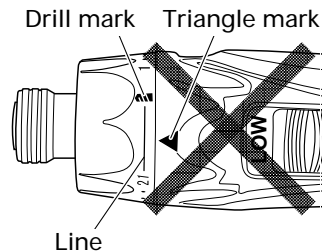

Fig. 9
- **Do not use with the clutch dial set at the line between the number "21" and the drill mark "◁▷▷▷". Doing so may cause damage (See Fig. 9).**